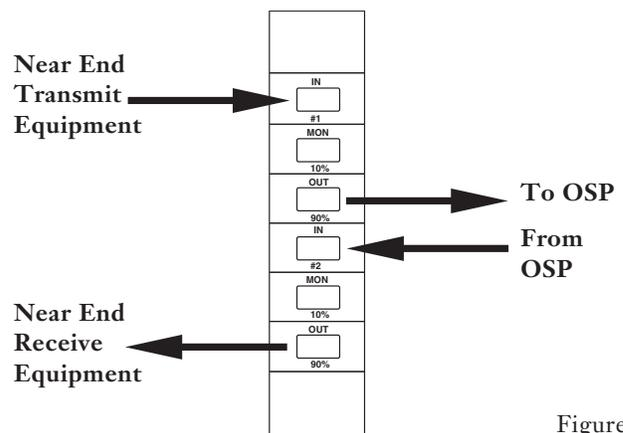
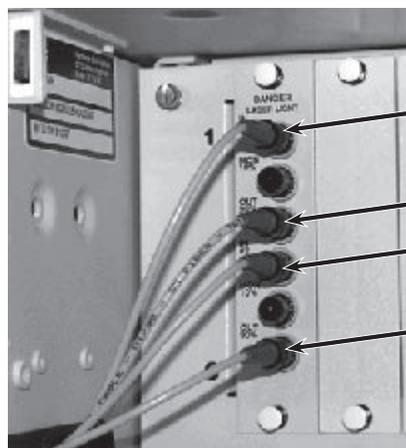

Figure 2
Figure 6
module, there are light paths for both *send* and *receive* circuits (Figure 2). There are two **outputs** for each of the two **inputs**. Each are on separate circuits, for a total of six connector ports.
5.1 Configuration #1 (protected): Referring to Figure 2, connect the **transmit** jumper from the local transmission equipment to the top port on the coupler module, marked “IN #1” (Figure 6). Connect the next jumper to the third port from the top, marked “OUT 90%”. Connect this jumper to the Outside Plant (OSP) patch panel. This is the output fiber to the distant fiber optic terminal. Connect the third jumper to the port marked “IN #2”. This jumper connects to the “receive” path from the distant fiber optic terminal. Connect the fourth jumper to the bottom port, labeled “OUT 90%”. Route this jumper to the **receive** side of the local transmission equipment.
5.2 Configuration #2 (Non-Protected): Referring to Figure 2, connect the **transmit** jumper from the local transmission equipment to the top port on the local coupler module, marked “IN #1”. Connect the next jumper to